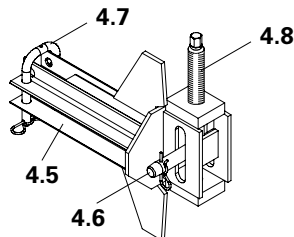

Fig. B2.13
2. Fix Connector TRIO-CB (4.5) to panel struts with hook clamps Ø 25 (4.7), see plans for arrangement. Centre distance = bracket spacing. By changing the mounting position of the spindle (4.8), the Connector TRIO-CB can be cantilevered to the left or right. (Fig. B2.13 + B2.13a)